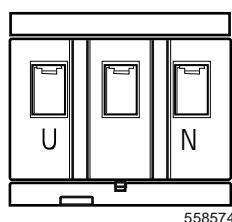
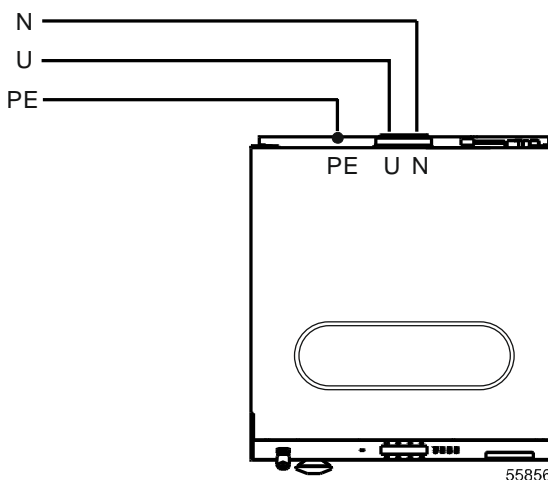

Figure 25 – Electrical connection terminal block
Figure 26 – Models outside of North America with single - phase connection
- Connect the electrical service's wires to the machine's electrical connection terminal as follows. Refer to Figure 26 for wiring connection details and to Figure 25 for electrical connection terminal details.